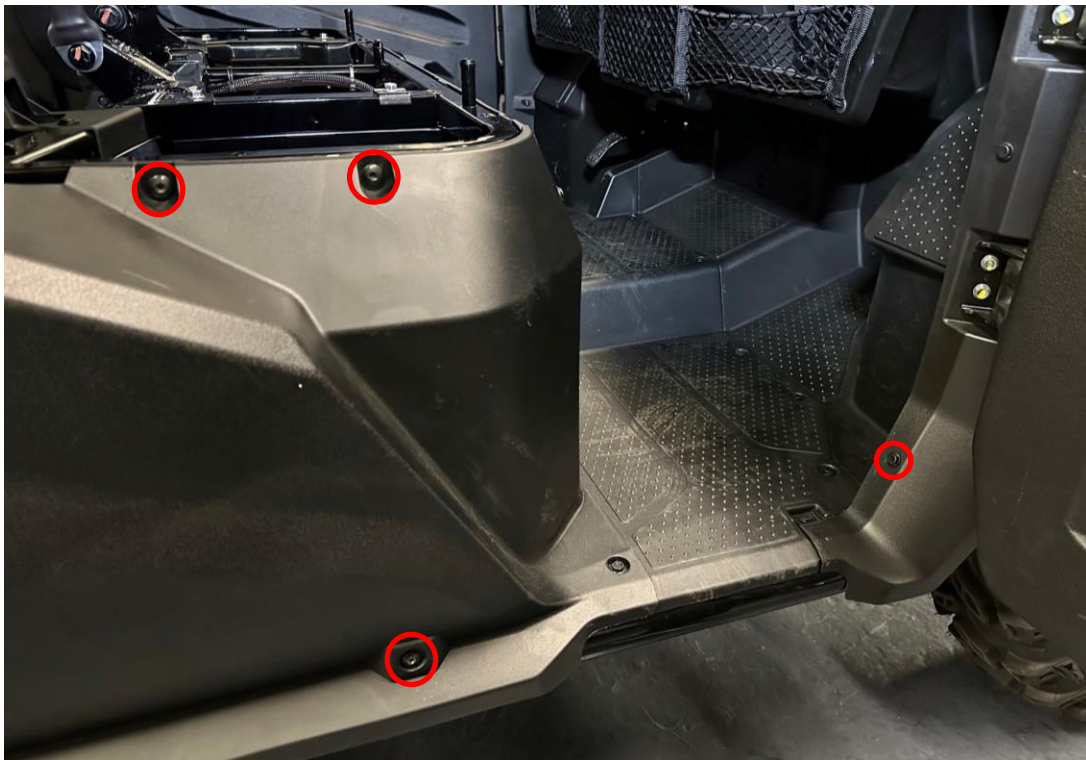

**Figure 10: Remove the fasteners from the bottom of the front floor panel.**
8. Remove the front floor panel. The panel is held in place with 9 plastic rivets and 4 screws on the bottom, and there are 13 plastic rivets securing it to the front seat frame. Pry the raised center of the plastic rivet out first, then pry the outside of the rivet. Save the rivets for reinstallation later. See Figure 10 and Figure 11.